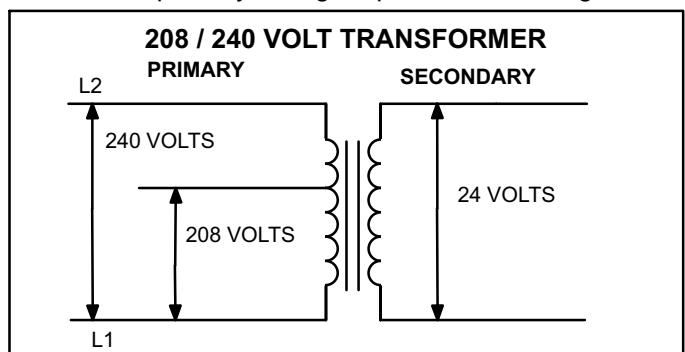

FIGURE 3
All 13GCS(X) series units use line voltage to 24VAC transformer mounted in the control box. The transformer supplies power to control circuits in the unit. Transformers use two primary voltage taps as shown in figure 3.